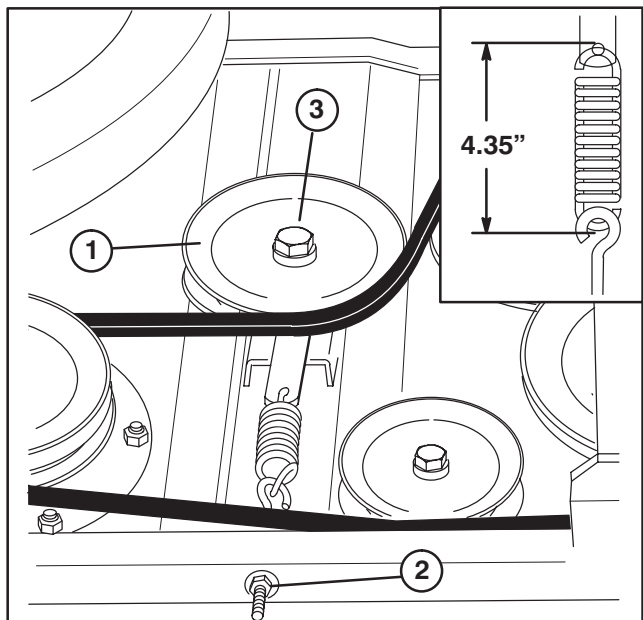

Figure 23
REPLACING DRIVE BELTS (Fig. 23–24)
6. Tighten spring tensioning nut until spring length is 4.35 inches outside spring loops (Fig. 23).